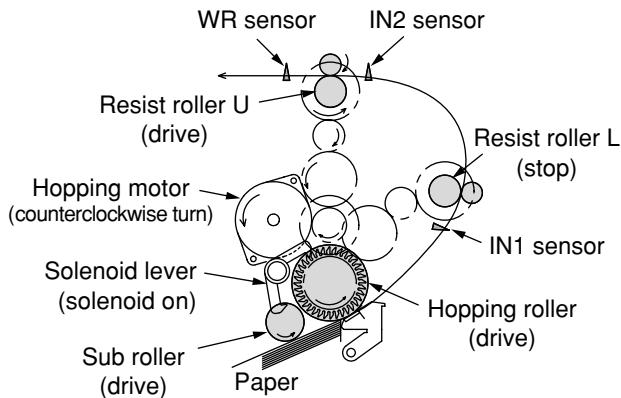

Figure 2-1
1. As shown in Figure 2-1, while the solenoid is on and the resist motor turns counterclockwise, a sheet of paper is transported until the IN1 sensor is on. (When the solenoid is on, the paper feeding roller operates.)